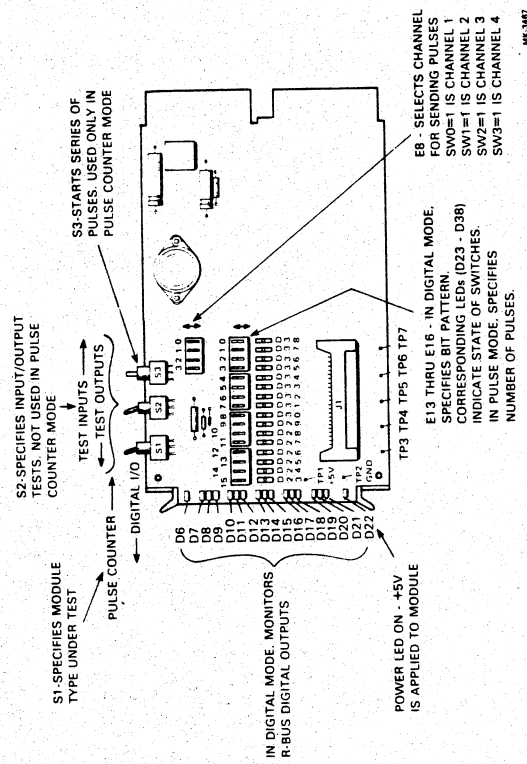

Figure 3-10 G5153 Digital I/O Pulse Count Test Module
- G5153 test module for digital I/O and pulse count testing (see Figure 3-10).